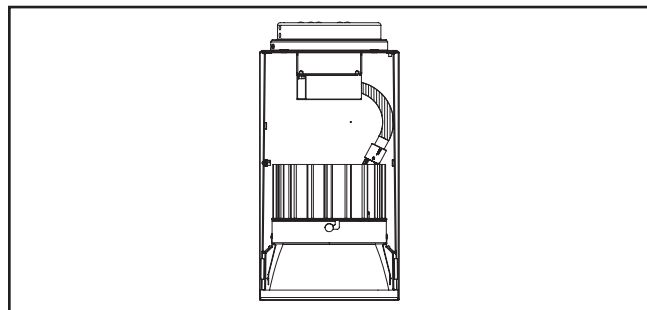

Figure 9.
6. Install the LED Engine and trim assembly by inserting the torsion springs into the spring receivers located inside the housing (Figure 9.).